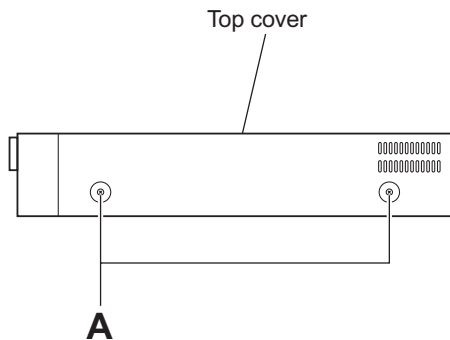

Fig.1
2.1.1 Removing the top cover (See Figs.1 to 4.)
- (1) From the right and left sides of the main body, remove the four screws A attaching the top cover. (See Figs.1 and 2.)